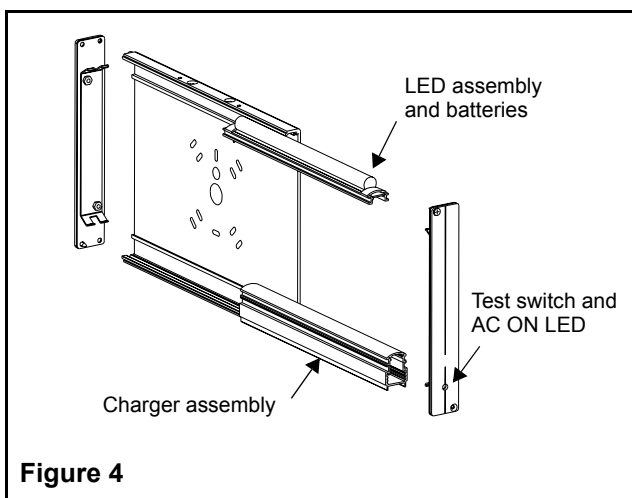

**Figure 3**
- c. Mount the exit sign securely to the junction box using the junction box screws (see fig. 3).